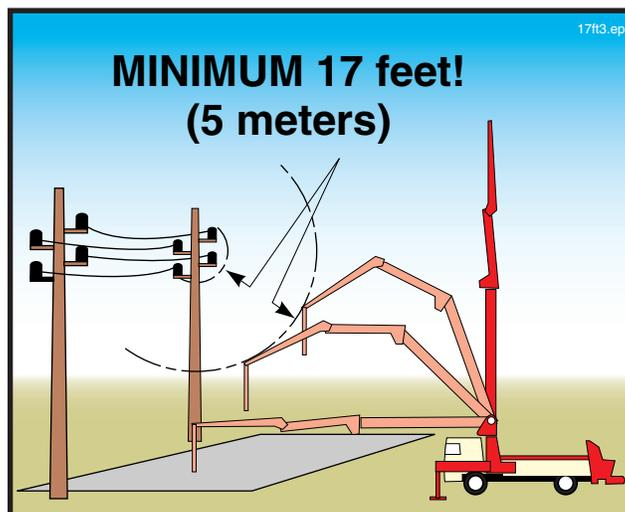

Figure 40
8.8 **⚠️ DANGER** You must avoid hazardous proximity or contact with power lines under all circumstances. **Be sure** that you maintain 17 ft. (5 meter) clearance! The 17 foot clearance allows room for the movement of the wires and the boom by wind force, electrical arcing, and human error (Figure 40). **Do not take chances with high voltage; it is the number one killer of concrete pump operators!**